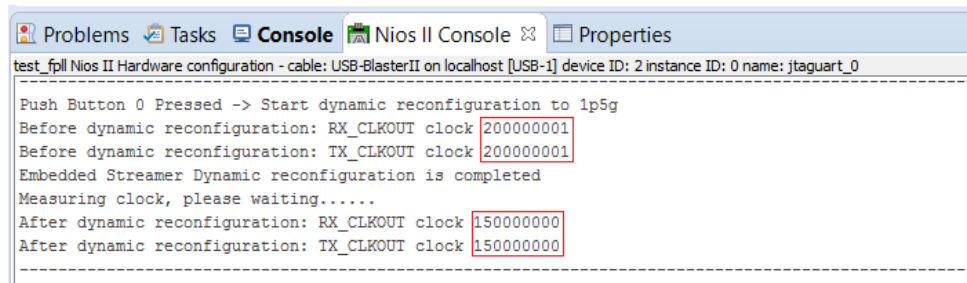

Figure 7. Result of Push Button 0 is pressed
14. When Push Button 0 is pressed, the design starts dynamic reconfiguration to 1.5Gpbs, and after the reconfiguration is completed, the RX\_CLKOUT and TX\_CLKOUT are changed to 150Mhz as Figure 7